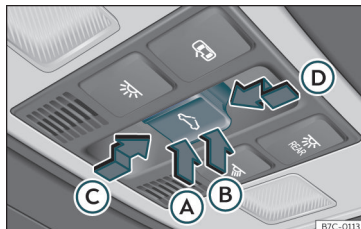

Fig. 117 On the interior roof lining: sunroof button.
The  button **>>> Fig. 117** has two levels. The first level switches the sunroof to the tilted position, opening or closing it fully or partially.
- *Sunroof*: within approximately 5 seconds of having activated the roll-back function, press the  button >>> **Fig. 117** to the second level in the direction of arrow >>> **Fig. 117** ⑥ until the sunroof closes completely.